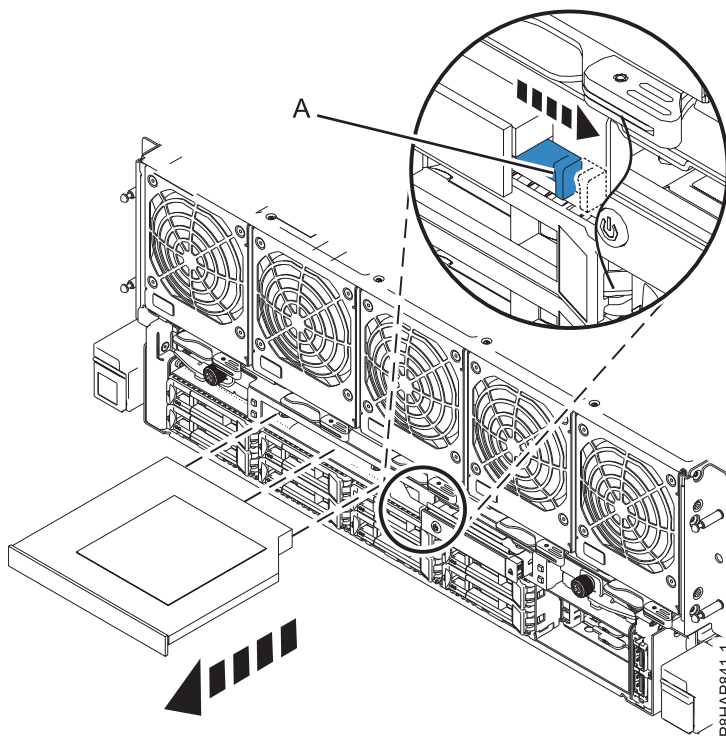

Figure 4. Removing the DVD drive
- a. Pull the blue lever **(A)** to the right as shown in Figure 4 on page 6.